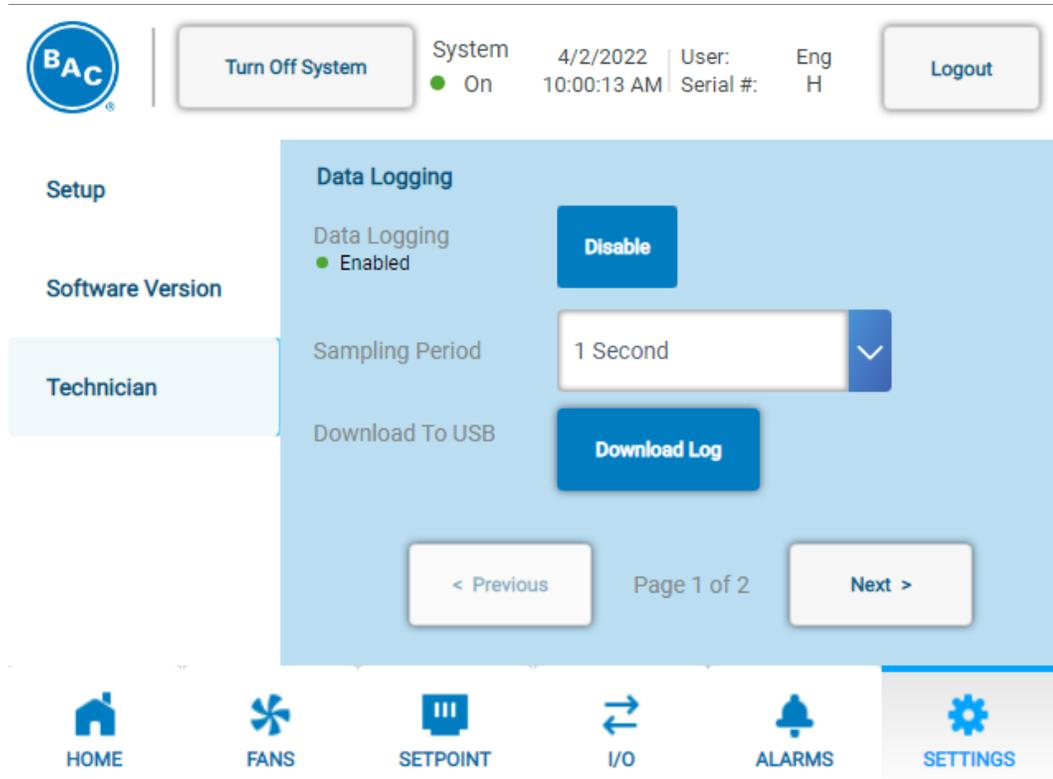
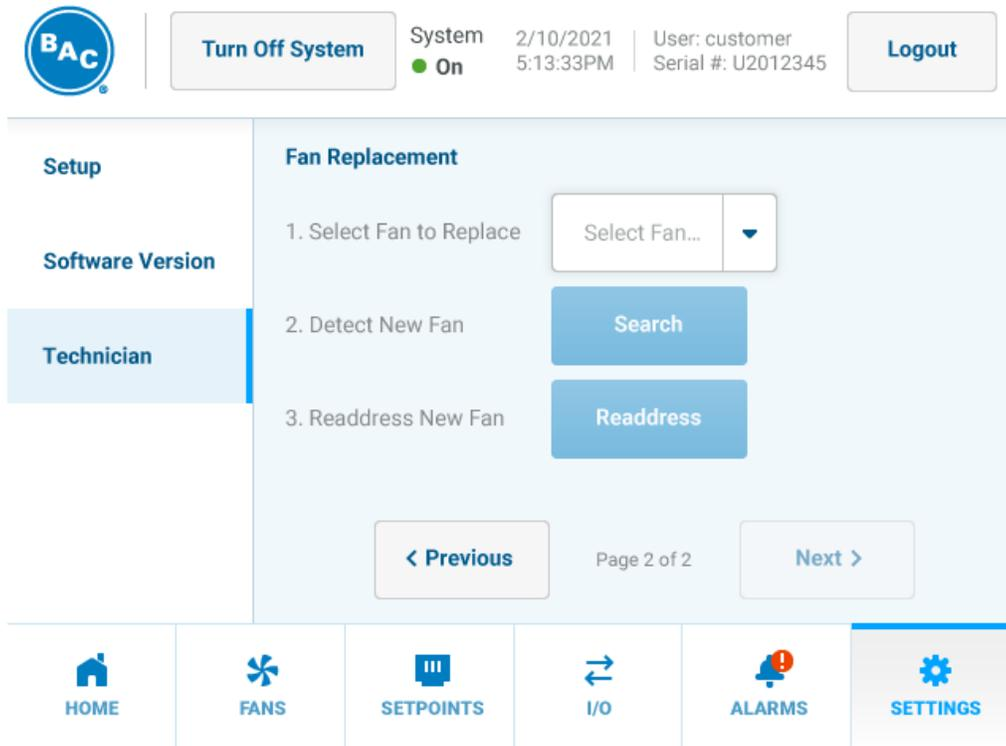

Figure 77. Settings Menu, Technician Page 1 of 2
Figure 78. Settings Menu, Technician Page 2 of 2
The Technician menu is only displayed and accessible with Technician access level. Refer to **Table 8. Access Levels and Passwords** on **Page 43**. The Technician menu is shown in **Figure 77** and **Figure 78** with parameters listed in **Table 34**.
Onboard data logging records and stores data listed in **Table 35** which can be loaded onto a portable USB storage device in a comma separated value (CSV) file. The sampling period is determined by the Sampling Period shown in **Figure 77** and listed in **Table 34**. This information can be used for troubleshooting or energy modeling purposes. Data logging can be enabled/disabled via the Technician menu shown in **Figure 77**. To retrieve data logging information:
2. Navigate to Settings menu, Technician Page 1 of 2 shown in **Figure 77**. Press “Download Log”. A loading bar will appear and display the current progress of the file downloads until complete.
2. Navigate to Settings menu, Technician Page 2 of 2 as shown in **Figure 78**.